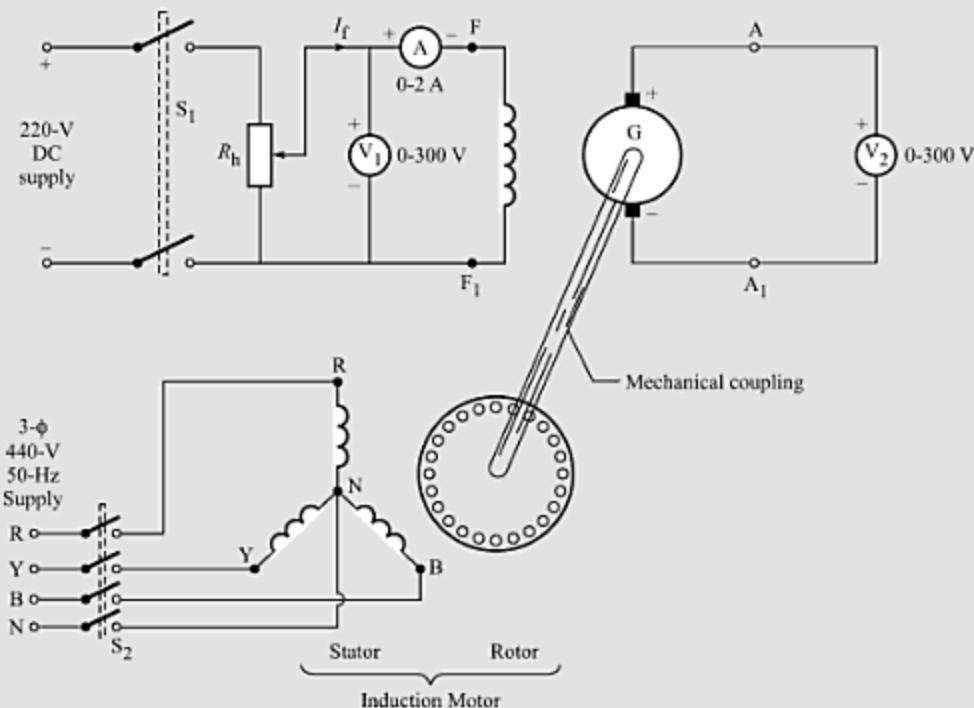

Fig. 16.20
Circuit Diagram The circuit arrangement is shown in Fig. 16.20.
For plotting the OCC of a shunt generator, its field winding is separately excited, as shown in Fig. 16.20. The generator is driven by a three-phase induction motor (or any other prime-mover) at a fixed speed and its armature terminals are left open to measure the induced emf E by a high-resistance voltmeter V_2 .
1. Make the connections as shown in Fig. 16.20. The dc generator is mechanically coupled to the 3-phase induction motor. Field winding terminals $F-F_1$ are connected to 220-V dc supply through a rheostat. The voltmeter V_2 is connected across the armature terminals $A-A_1$.